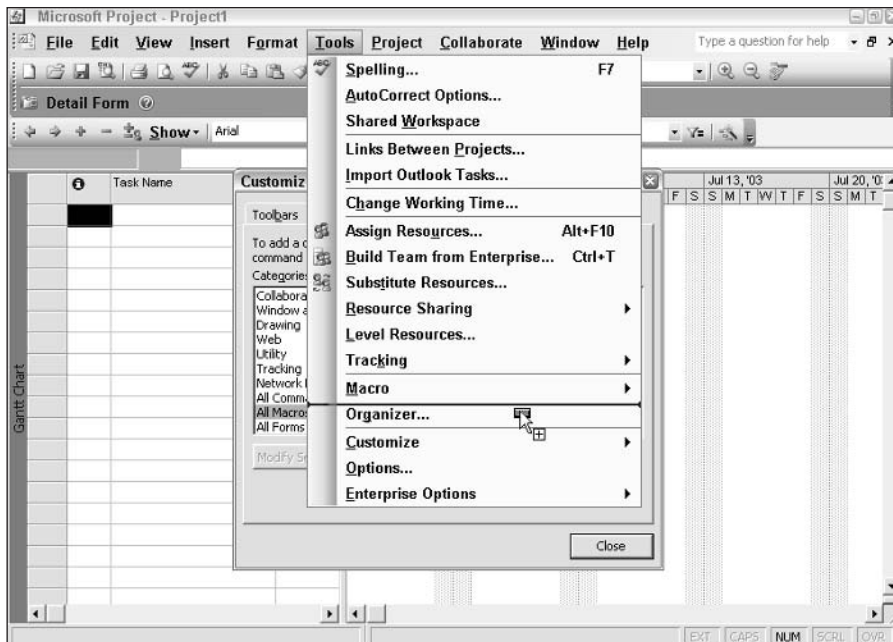

Figure 24-12: The image of the mouse pointer icon changes as you drag a macro onto a menu.
4. Drag the macro that you want to add to the desired menu, as shown in Figure 24-12. As you drag, the mouse pointer image changes to include a small button and a plus sign (+). As you move the mouse pointer over a menu, the menu opens; a large horizontal insertion point marks the location where the button will appear when you release the mouse button.